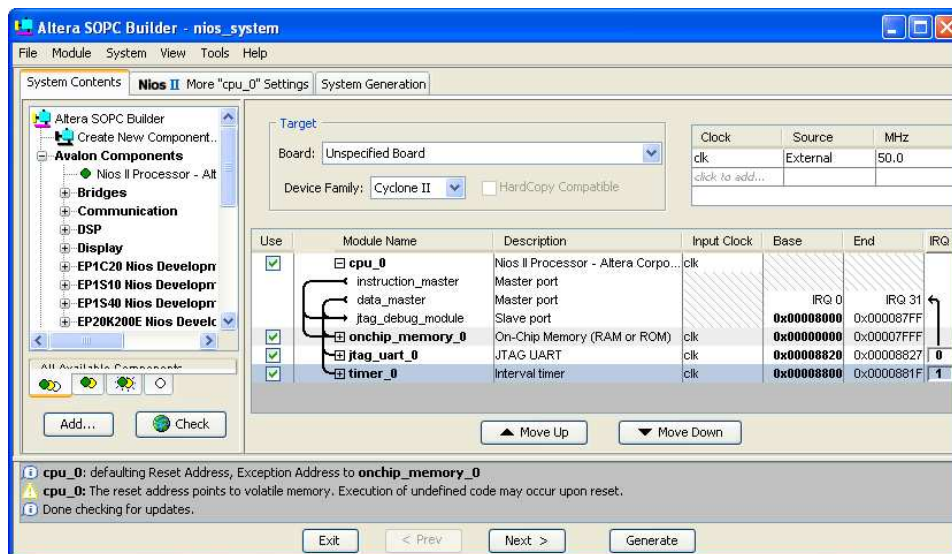

Figure 5. The Nios II system implemented by the SOPC Builder.
3. From the System menu, select Auto-Assign Base Addresses. You should now have the system shown in Figure 5.
*handler* as chosen by the SOPC Builder. The exception return address in the *ea* register must be decremented by 4 for external interrupts. Figure 5 gives a skeleton of the interrupt-service routine written in the Nios II assembly language.
To enable both interrupts, from the Interval Timer and the JTAG UART for reading characters (from Part IV), the bits  $b_1$  and  $b_0$  of the control register *ctl3* must both be set to 1. As seen in Figure 5, the JTAG UART is on interrupt line 0 (or  $b_0$ ) and the Interval Timer is on interrupt line 1 (or  $b_1$ ). The control register *ctl4*, also referred to as *ipending*, can be used to determine which interrupt has occurred. If an interrupt is disabled using the control register *ctl3*, it will not cause the interrupt-service routine to execute, nor will it show as being triggered in the control register *ctl4*, even if the device is driving its interrupt-request line to 1.